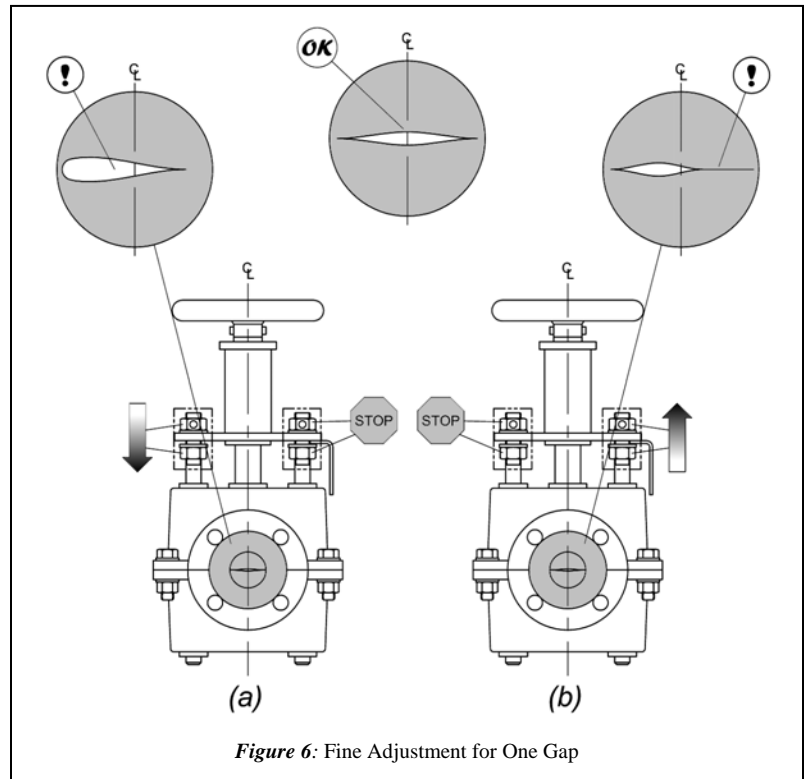

Figure 6: Fine Adjustment for One Gap
DO NOT turn the B-nuts away from the fastening plate ③ more than the measurement,  $\chi$  (Fig. 6), or RF Valve® will close too far and further calibration will not be possible.